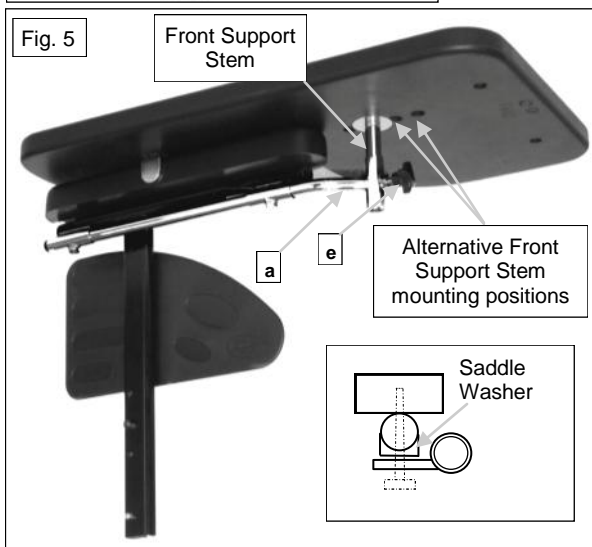

Fig. 5
- Using the receiver Bracket (a) as a guide, assess the best mounting position for the front Bexhill Support Stem and install Stem complete with large panel washer see Fig.5, tighten just sufficient to prevent any movement.
- Locate Bexhill Support Stem into the Receiver Bracket (a) see Fig.5